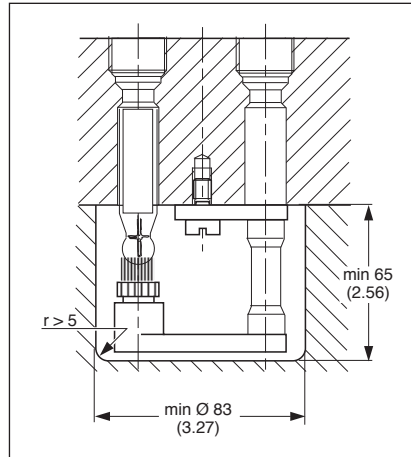
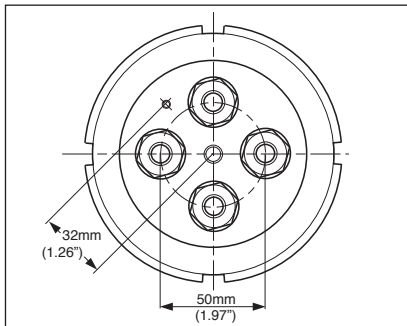
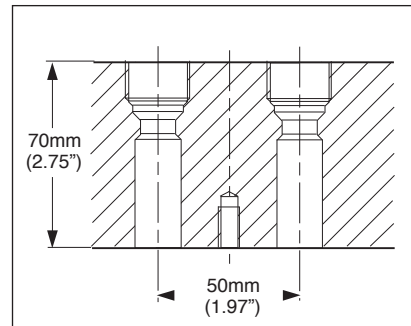

Fig. 4 Dimensions cleaning systems
Fig. 5 Dimensions electrode holder
Fig. 6 Dimensions
The dimensions (min.) of a vessel are the same for all cleaning systems (see fig. 4) Fig. 5 indicates the distances between the four (4) electrode mounting holes and the earth pin (circular construction). The distance between an electrode hole and a hole for a cleaning system is shown in fig. 6.